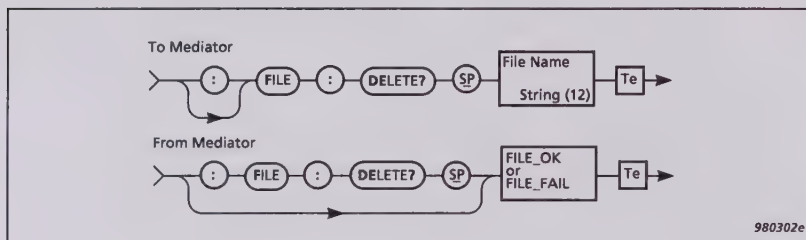

Fig. 11.15 Syntax for the **File:DElete** command
**DElete?** is used for deleting one or more files from the Mediator File Manager. You can specify a block of files by using the "\*" and "?" wild card characters. The syntax for the **DElete?** query is shown in Fig. 11.15.